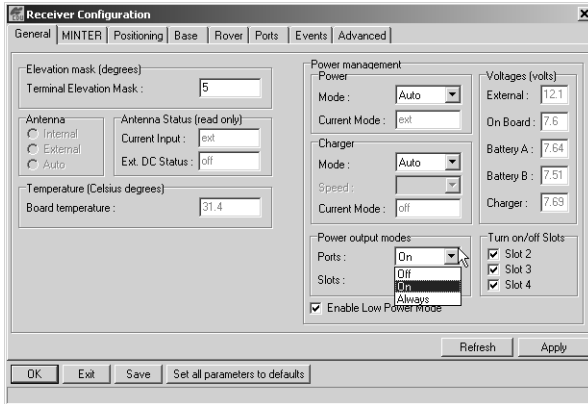

Figure 2-16. Select Power Output Modes – Ports
- Select the Power output modes Ports drop-down list to set power output on the serial ports (Figure 2-16).